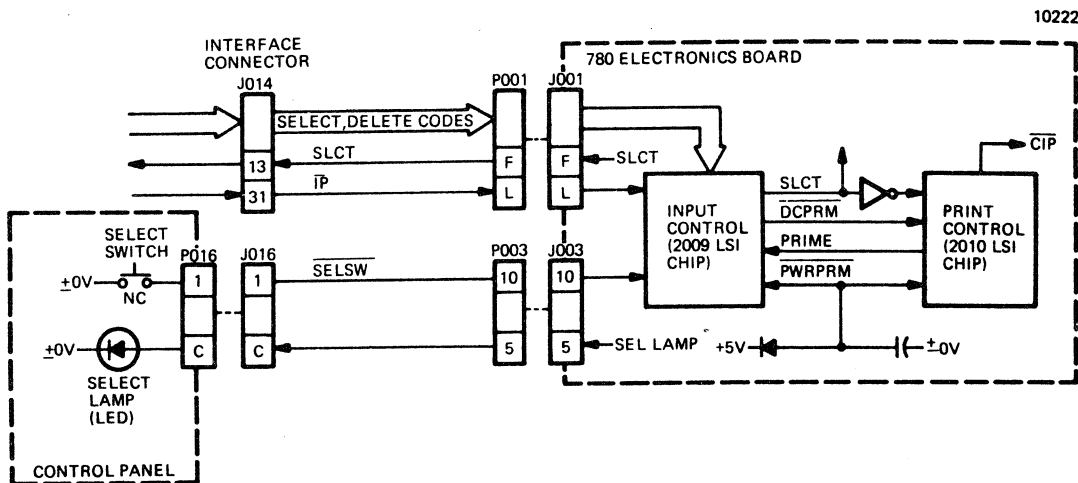

FIGURE 2-2. INITIALIZING THE PRINTER
2.3 INITIALIZING THE PRINTER (Figure 2-2)